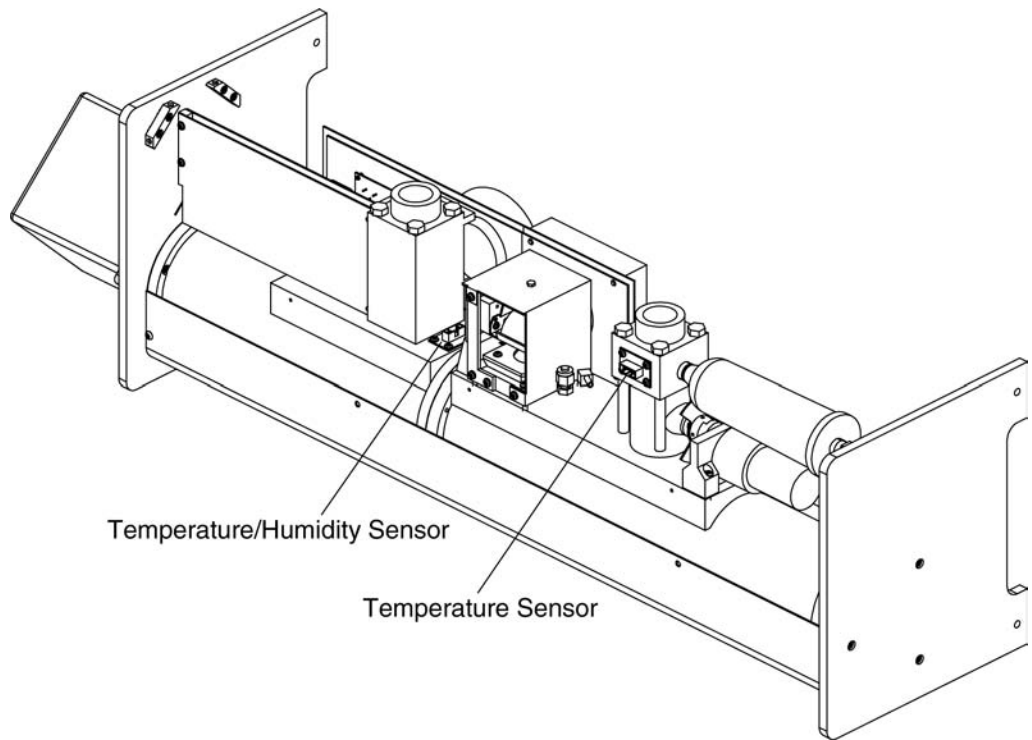

Figure 8-37
3. Disconnect the ribbon cable from the appropriate sensor (Figure 8-37).